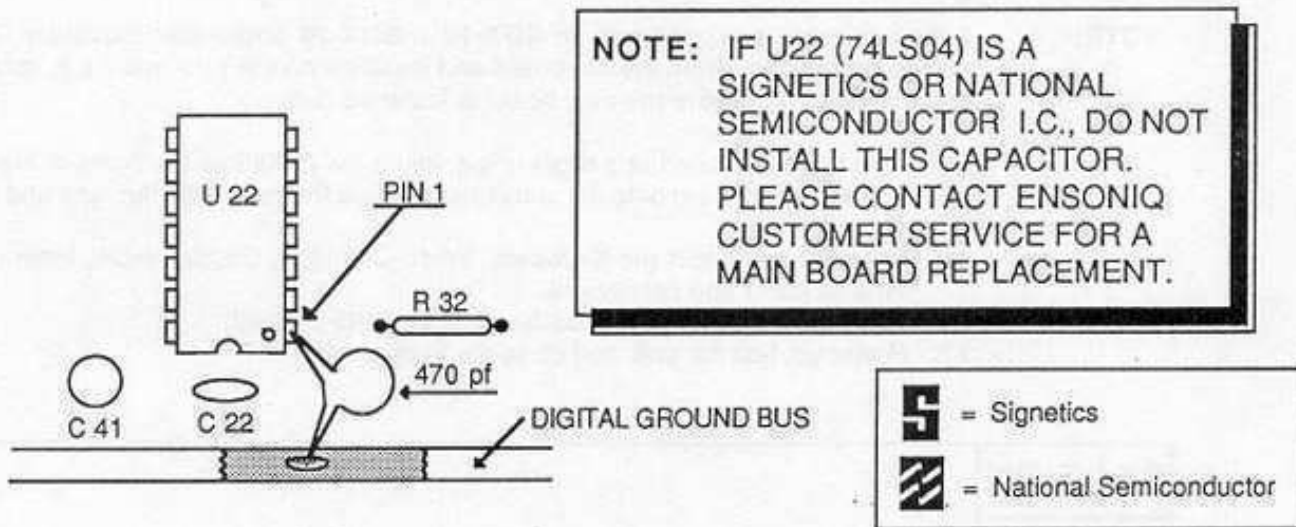

Figure 5
- Disconnect all cables from the ESQ-1, including the power cable. Remove the four (4) screws that fasten the control panel and raise the panel.
- You should now have access to the main board. Locate U22 (74LS04) and scrape away the solder mask coating (from about 1/4 inch of the digital ground bus directly across from pin 1 of U22 -- see Figure 5). Tack-solder a 470pf capacitor between pin 1 of U22 and the scraped portion of the ground bus.